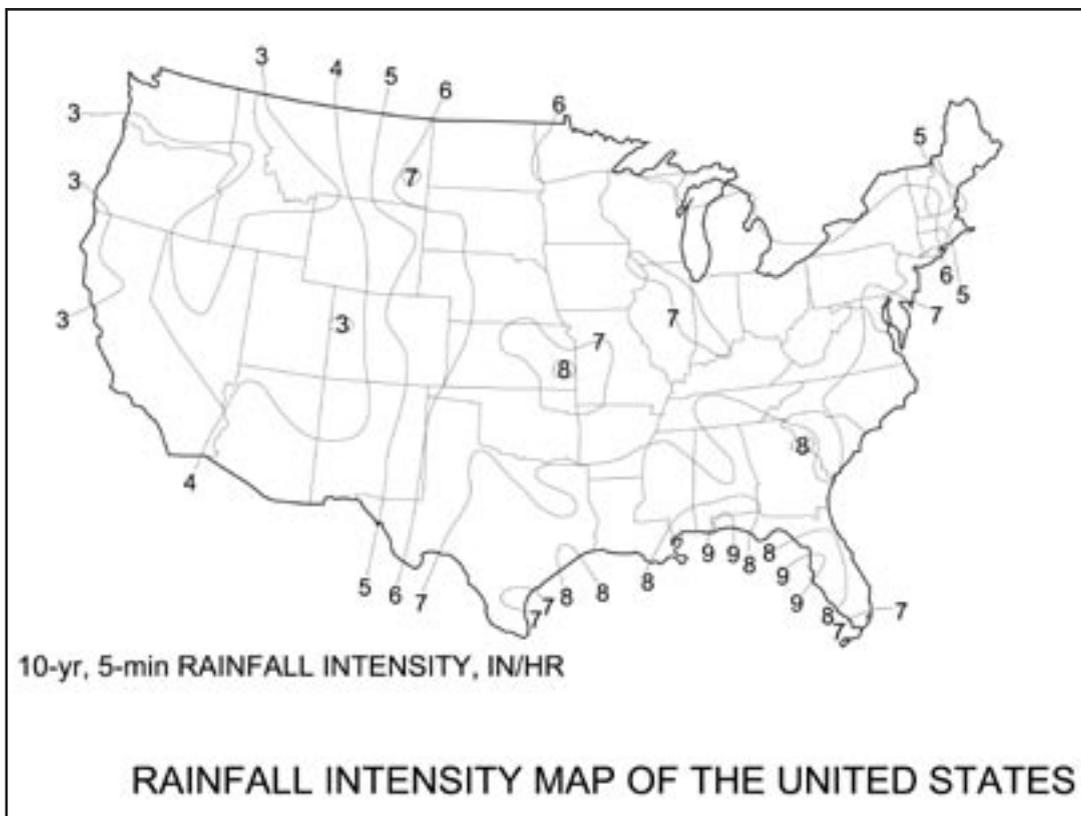

Figure 11 – Rainfall Intensity Map of the United States
The design rainfall intensity for roof drainage design is sometimes based on a 10-year return period and 5-minute duration (see Figure 11). However, other design return periods and durations may be used effectively. Adjustment factors for other acceptable design conditions are given below. A standardized design criterion in U.S. model building codes does not exist, so practical experience and judgment are important.
STEP 1: From Figure 11, a design rainfall intensity of 7 in/hr is determined for the site.